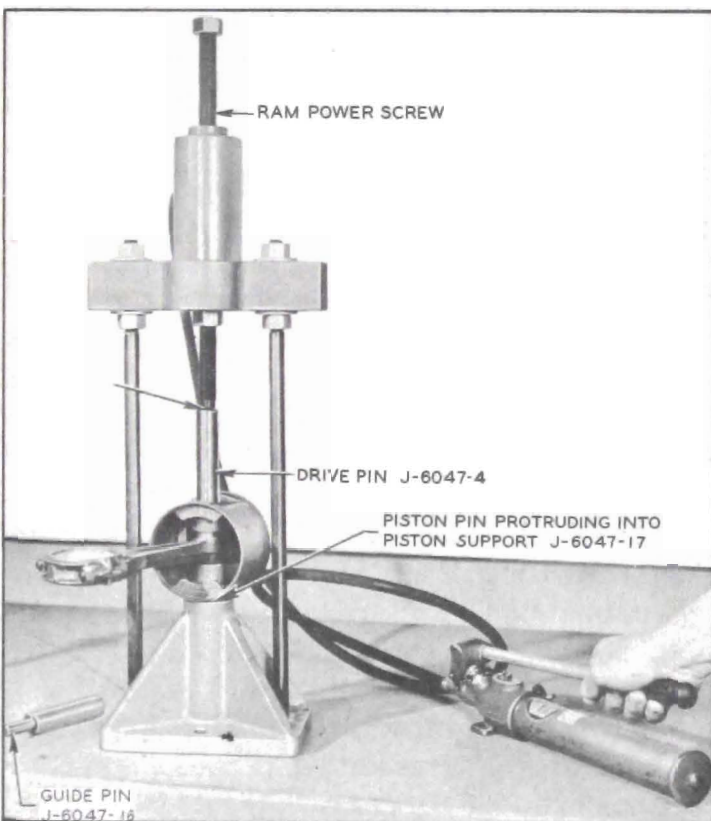

Figure 2-32—Piston Pin Removal
8. Place piston and rod assembly in press, see figure 2-32. Using Piston Support J-6047-17 (with full radial face up) under the piston, place Drive Pin J-6047-4 in upper end of piston pin and press pin from rod and piston. Guide Pin J-6047-16 is not used during pin removal. See figure 2-32.